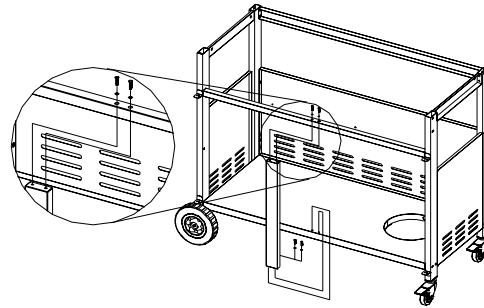

Figure 7
3. Attach the cart front support to the front cart frame beam and bottom panel using (4) $\frac{5}{32} \times \frac{2}{5}$ " Phillips head screw and (4) $\frac{5}{32}$ " lock washers. (Fig.7)